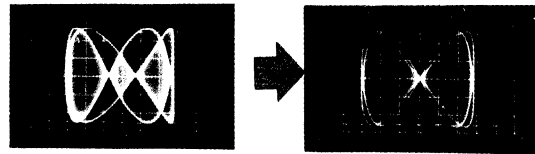

Fig. 3-8 Lissajous pattern
3. Turn the pilot-signal (19 kHz) phase control to obtain an in-phase and stable lissajous pattern as shown in Fig. 3-8.